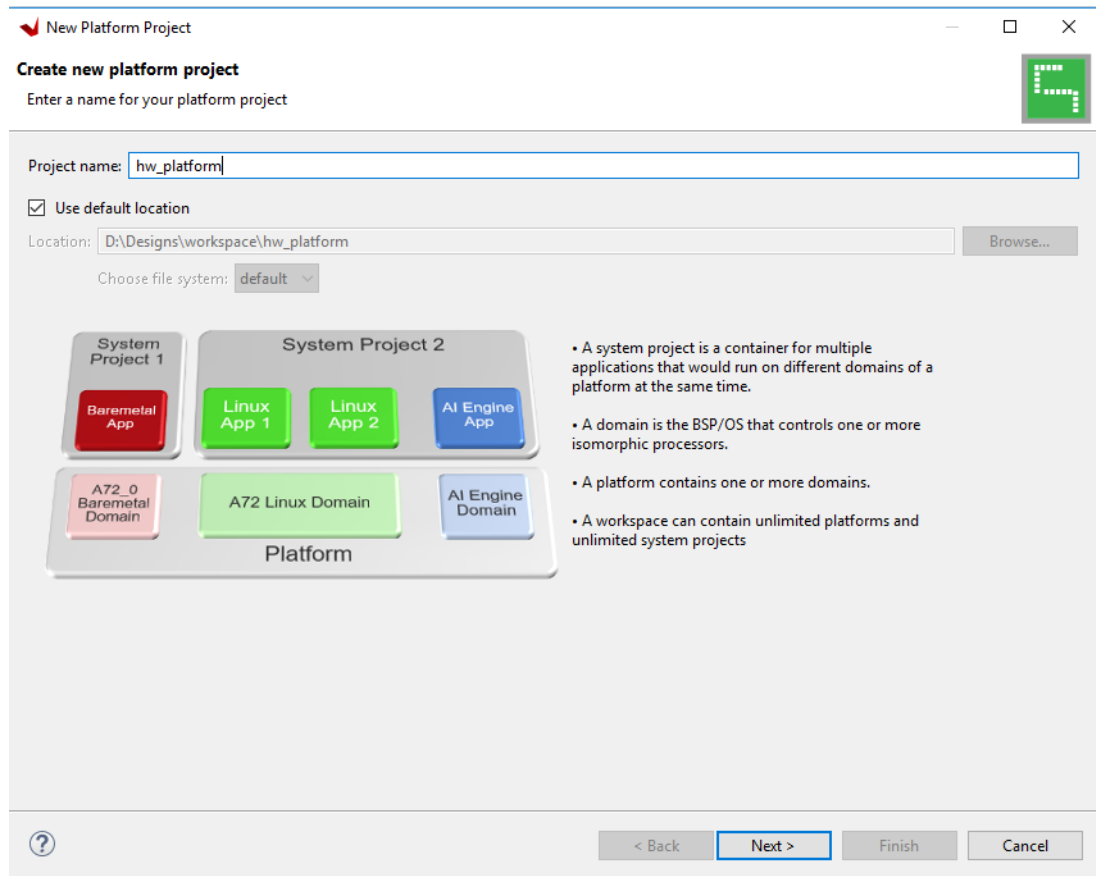

Figure 2: New Platform Window in Vitis
5. Enter the project name as `hw_platform`, when the New Platform Project dialog box opens as shown in Figure 2. Click **Next**.